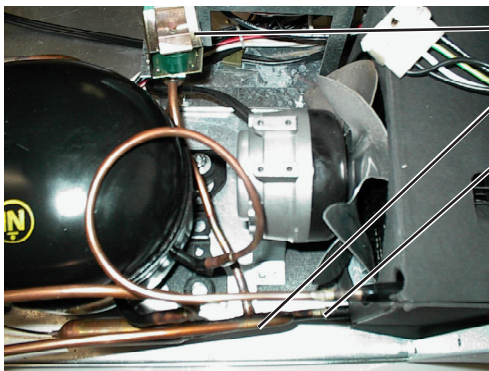

Figure 3.1
10. Disconnect the wires at the solenoid, remove the solenoid-retaining clip, and remove the solenoid (see Figure 3.1).
13. Unbrazed the drier assembly at the end of the condenser (see Figure 3.1). Be sure to cap off after cooling.
24. Unbrazed and remove the drier assembly at the condenser (see Figure 3.1).
13. Unbrazed the tube from the hot gas valve at the tee fitting on the drier assembly (see Figure 3.1).